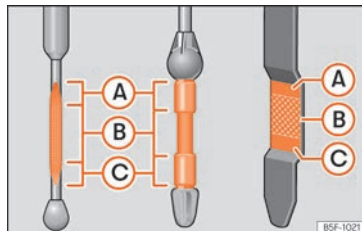

Fig. 195 Engine oil dipstick.
- Then pull it out once more and check the oil level » Fig. 195. Top up with engine oil if necessary.
- When the oil level reaches at least zone » **Fig. 195 (B)**, unscrew the engine oil filler cap carefully » ⓘ.
If the oil level is above area » **Fig. 195 (A)**, do not start the engine. This could result in damage to the engine and catalytic converter. Contact a specialised workshop.
The oil level must never be above zone » **Fig. 195 (A)**. Otherwise oil can be drawn in through the crankcase breather and leak into the atmosphere via the exhaust system.